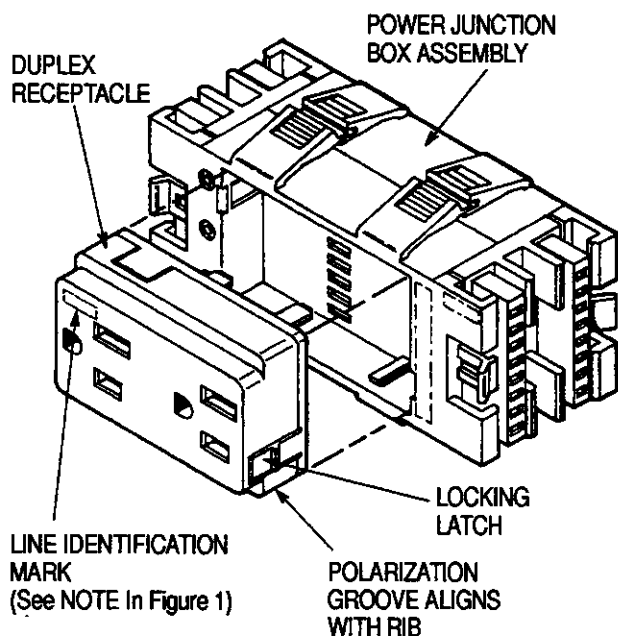

Figure 2
2. Insert receptacle into junction box by aligning the groove of the receptacle with the key of the box and snapping the receptacle firmly into place. Refer to Figure 2. No tooling is needed for insertion.